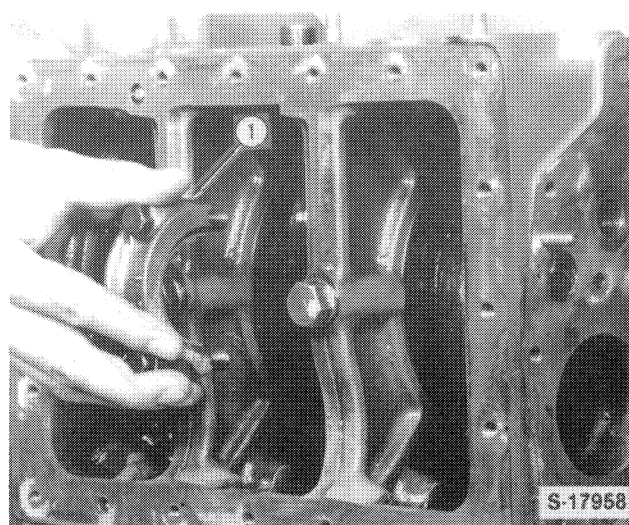

FIGURE 1-79
4. Remove the connecting rod caps, Figure 1-79.